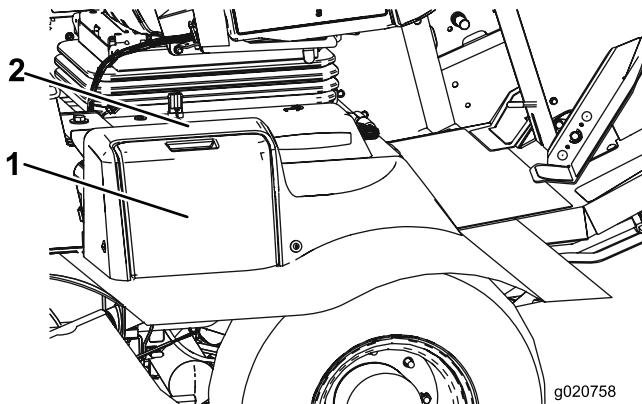

Figure 52
1. Open the battery cover on the side of the shroud (Figure 52).
Note: Press down on the flat surface above the battery cover to ease the removal of the cover (Figure 52).